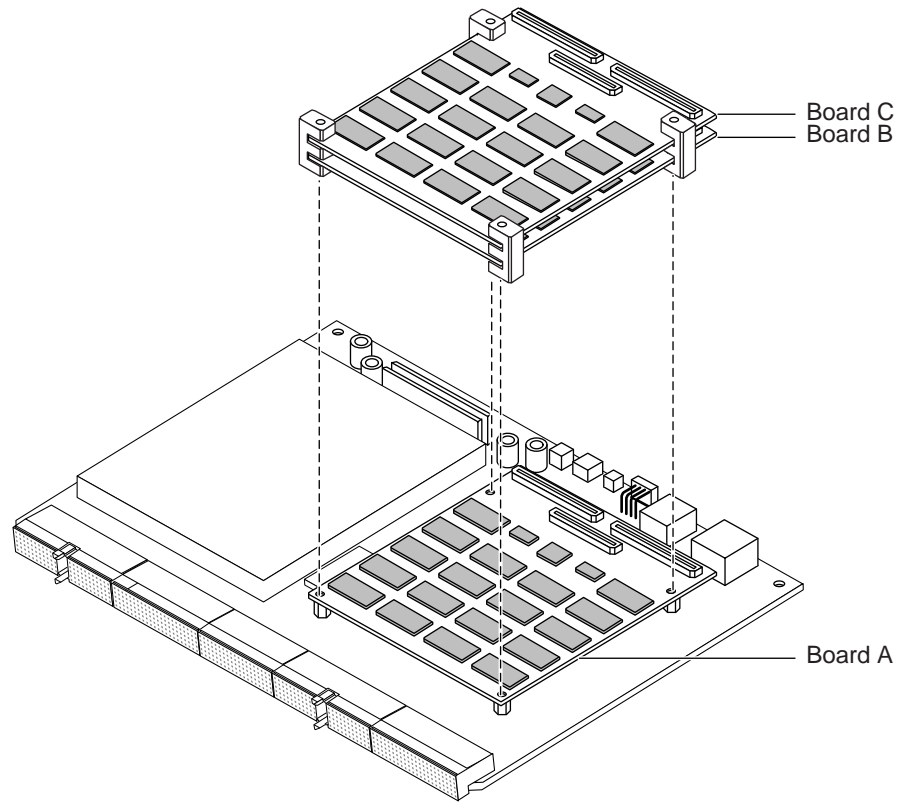

FIGURE 10 Mounting the Second and Third Boards onto the Base Memory Board
11. Carefully transport the memory boards (Boards B and C) with spacers onto Board A (see FIGURE 10).